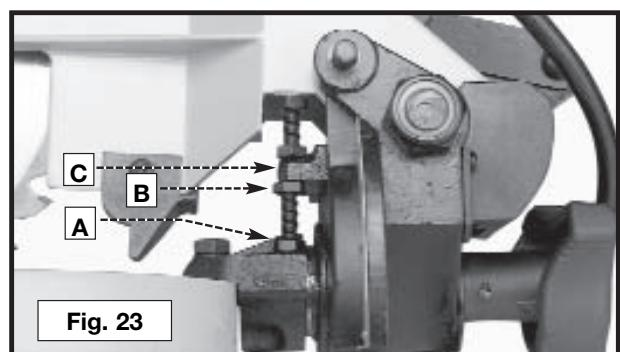

Fig. 23
3. If an adjustment is necessary, loosen the locknut (A) Fig. 23. Turn the screw (B) until the head of the screw contacts the casting (C) when the blade is 90° to the table. Tighten the locknut (B).